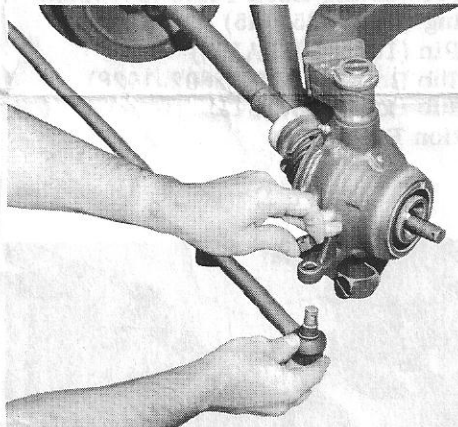

Figure 8.
- Disconnect left steering tie rod assembly from steering knuckle by removing cotter pin and castellated nut from left tie rod ball joint stud. Pry or tap stud from knuckle. This permits both steering knuckles to be moved independently and provides better access (fig. 8).